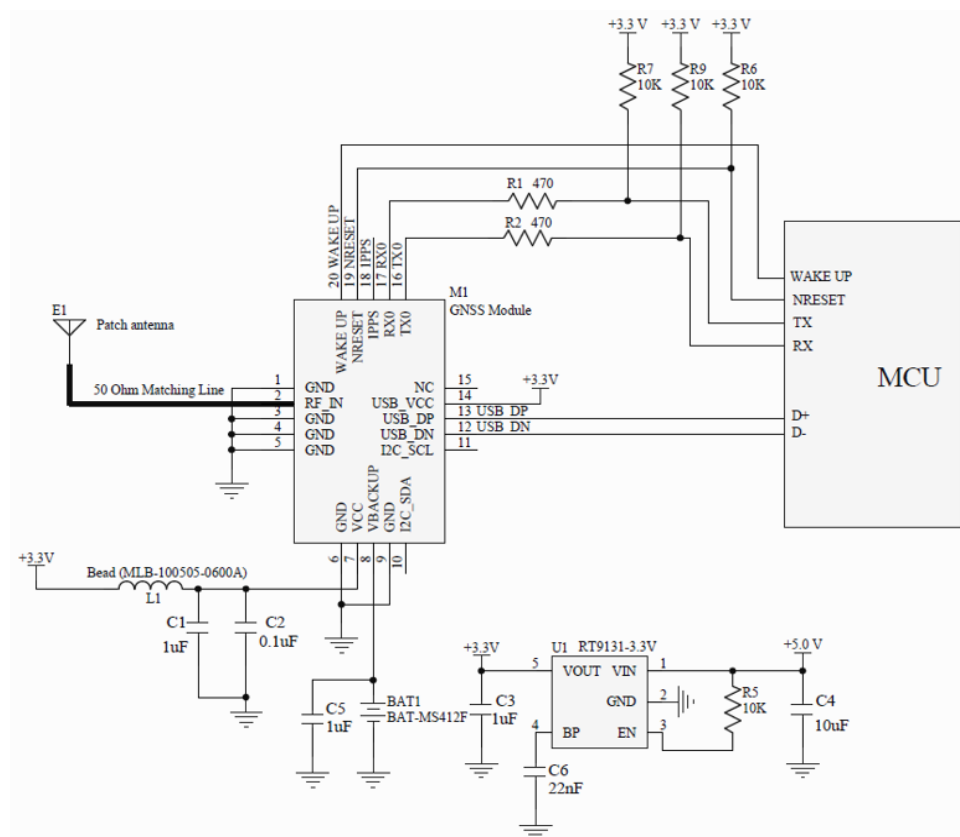

Figure 4-2: Reference Schematic for Using UART0 + USB
2. UART0 + USB — both interfaces can support NMEA output. Refer to Figure 4-2.